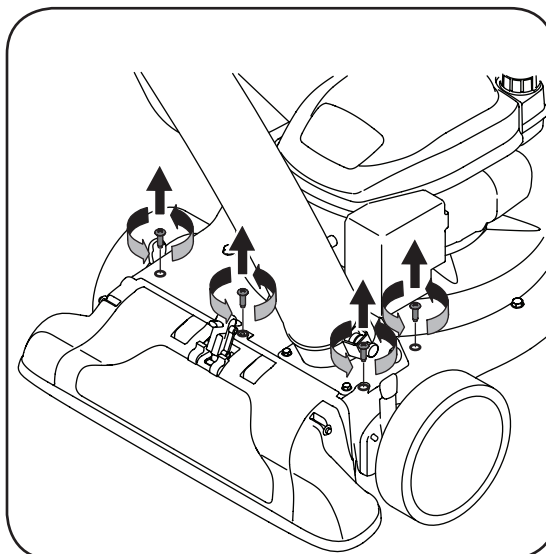

Figure 5-4
5. Remove the three screws on the upper housing that secure the nozzle cover and the nine screws that secure the lower housing to the upper housing. See Figure 5-4.